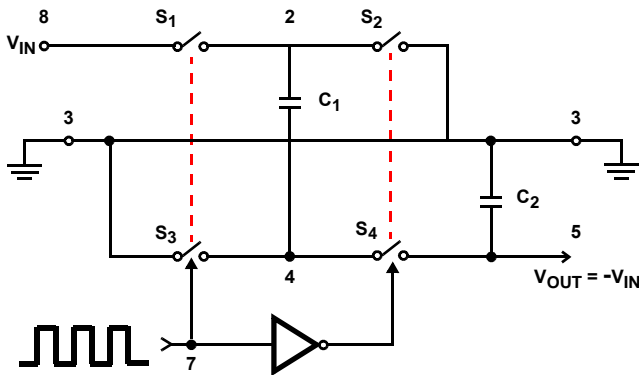
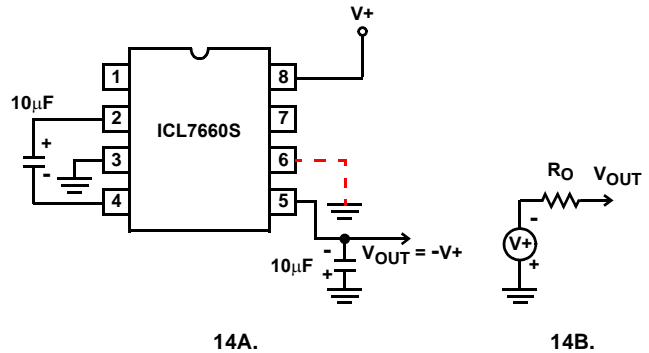
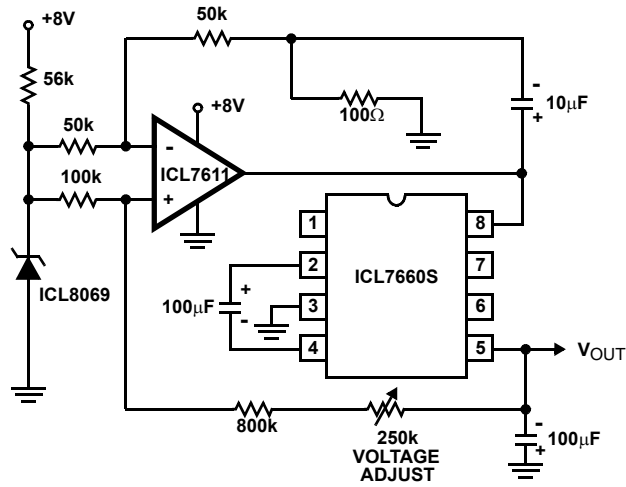

FIGURE 13. IDEALIZED NEGATIVE VOLTAGE CONVERTER
FIGURE 14. SIMPLE NEGATIVE CONVERTER AND ITS OUTPUT EQUIVALENT
FIGURE 20. REGULATING THE OUTPUT VOLTAGE
The ICL7660S contains all the necessary circuitry to complete a negative voltage converter, with the exception of 2 external capacitors which may be inexpensive 10 $\mu$ F polarized electrolytic types. The mode of operation of the device may be best understood by considering Figure 13, which shows an idealized negative voltage converter. Capacitor  $C_1$  is charged to a voltage,  $V_+$ , for the half cycle when switches  $S_1$  and  $S_3$  are closed. (Note: Switches  $S_2$  and  $S_4$  are open during this half cycle.) During the second half cycle of operation, switches  $S_2$  and  $S_4$  are closed, with  $S_1$  and  $S_3$  open, thereby shifting capacitor  $C_1$  to  $C_2$  such that the voltage on  $C_2$  is exactly  $V_+$ , assuming ideal switches and no load on  $C_2$ . The ICL7660S approaches this ideal situation more closely than existing non-mechanical circuits.
In the ICL7660S, the 4 switches of Figure 13 are MOS power switches;  $S_1$  is a P-Channel devices and  $S_2$ ,  $S_3$  and  $S_4$  are N-Channel devices. The main difficulty with this
where  $V_1$  and  $V_2$  are the voltages on  $C_1$  during the pump and transfer cycles. If the impedances of  $C_1$  and  $C_2$  are relatively high at the pump frequency (refer to Figure 13) compared to the value of  $R_L$ , there will be substantial difference in the voltages  $V_1$  and  $V_2$ . Therefore it is not only desirable to make  $C_2$  as large as possible to eliminate output voltage ripple, but also to employ a correspondingly large value for  $C_1$  in order to achieve maximum efficiency of operation.
The majority of applications will undoubtedly utilize the ICL7660S for generation of negative supply voltages. Figure 14 shows typical connections to provide a negative supply where a positive supply of +1.5V to +12V is available. Keep in mind that pin 6 (LV) is tied to the supply negative (GND) for supply voltage below 3.5V.
The output characteristics of the circuit in Figure 14 can be approximated by an ideal voltage source in series with a resistance as shown in Figure 14B. The voltage source has a value of  $-(V^+)$ . The output impedance ( $R_O$ ) is a function of the ON resistance of the internal MOS switches (shown in Figure 13), the switching frequency, the value of  $C_1$  and  $C_2$ , and the ESR (equivalent series resistance) of  $C_1$  and  $C_2$ . A good first order approximation for  $R_O$  is:
The ICL7660S may be employed to achieve positive voltage doubling using the circuit shown in Figure 20. In this application, the pump inverter switches of the ICL7660S are used to charge  $C_1$  to a voltage level of  $V^+ - V_F$  (where  $V^+$  is the supply voltage and  $V_F$  is the forward voltage on  $C_1$  plus the supply voltage ( $V^+$ ) is applied through diode  $D_2$  to capacitor  $C_2$ . The voltage thus created on  $C_2$  becomes  $(2V^+) - (2V_F)$  or twice the supply voltage minus the combined forward voltage drops of diodes  $D_1$  and  $D_2$ .
Figure 21 combines the functions shown in Figure 14 and Figure 20 to provide negative voltage conversion and positive voltage doubling simultaneously. This approach would be, for example, suitable for generating +9V and -5V from an existing +5V supply. In this instance capacitors  $C_1$  and  $C_3$  perform the pump and reservoir functions respectively for the generation of the negative voltage, while capacitors  $C_2$  and  $C_4$  are pump and reservoir respectively for the doubled positive voltage. There is a penalty in this configuration which combines both functions, however, in that the source impedances of the generated supplies will be somewhat higher due to the finite impedance of the common charge pump driver at pin 2 of the device.